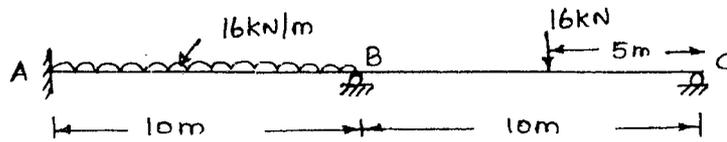

Fig. 3
12. (a) Analyse the continuous beam in Fig. 3 by flexibility method.